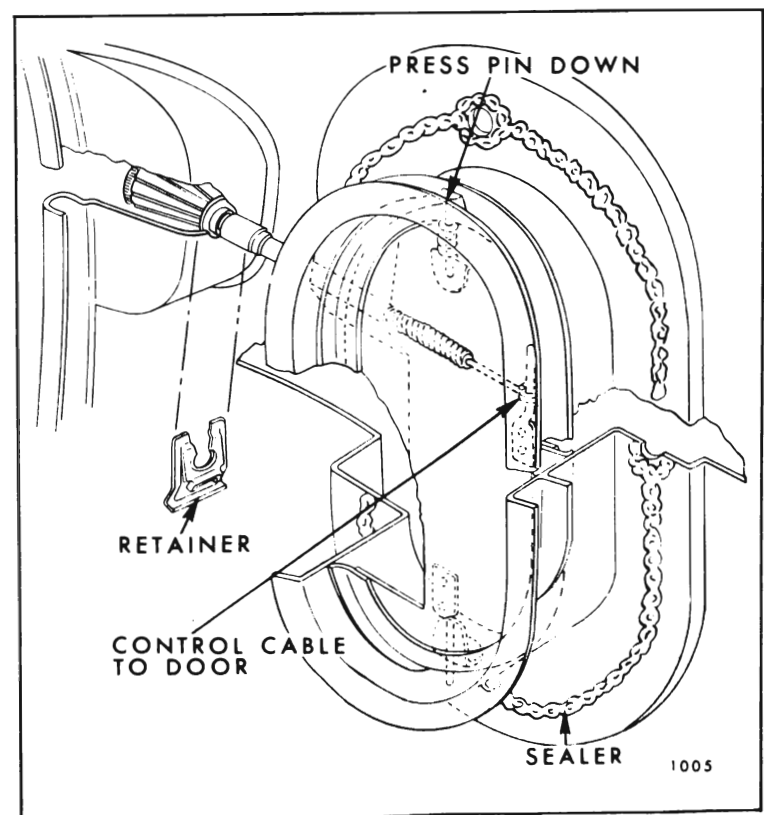

Fig. 3-5—Air Outlet Duct Assembly
1. With a flat-bladed tool (screw driver or equivalent), pry the outlet grille from the assembly. (Fig. 3-5).
4. Remove finishing panel to hinge pillar attaching screw (Fig. 3-5) and remove assembly.
5. To install, apply a generous bead of medium-bodied sealer to flange of duct assembly (Fig. 3-5) and reverse removal procedure.
2. Disconnect control cable from door (Fig. 3-5).
3. Press down on upper door hinge pin (Fig. 3-5) and remove door assembly.
3. Remove retainer securing control assembly to finishing panel (Fig. 3-5) and remove control assembly.